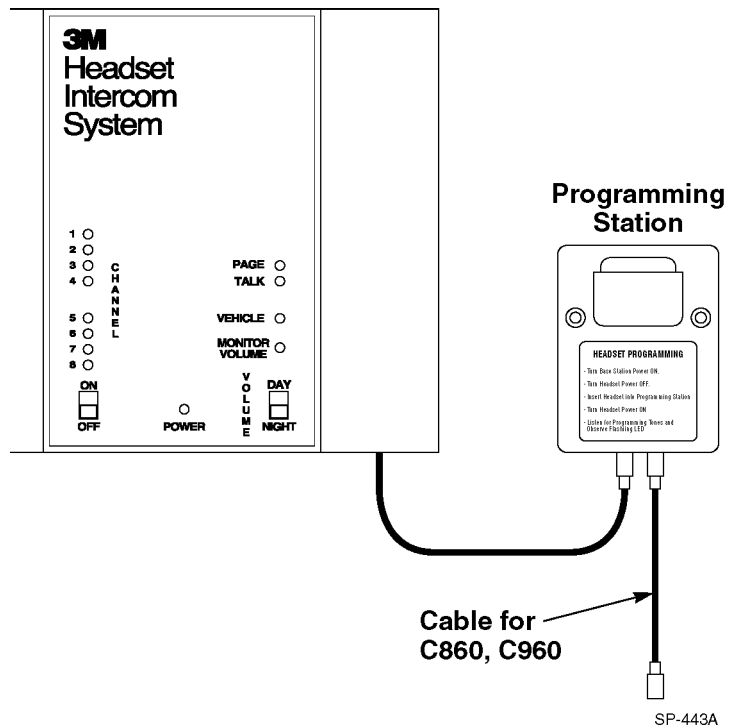

Figure 15.
1. With the base station turned on, press and release the Channel Select switch once. (This advances the system to the next channel.) One of the red indicators (1–8) will light, indicating the newly selected channel. See Figure 15.